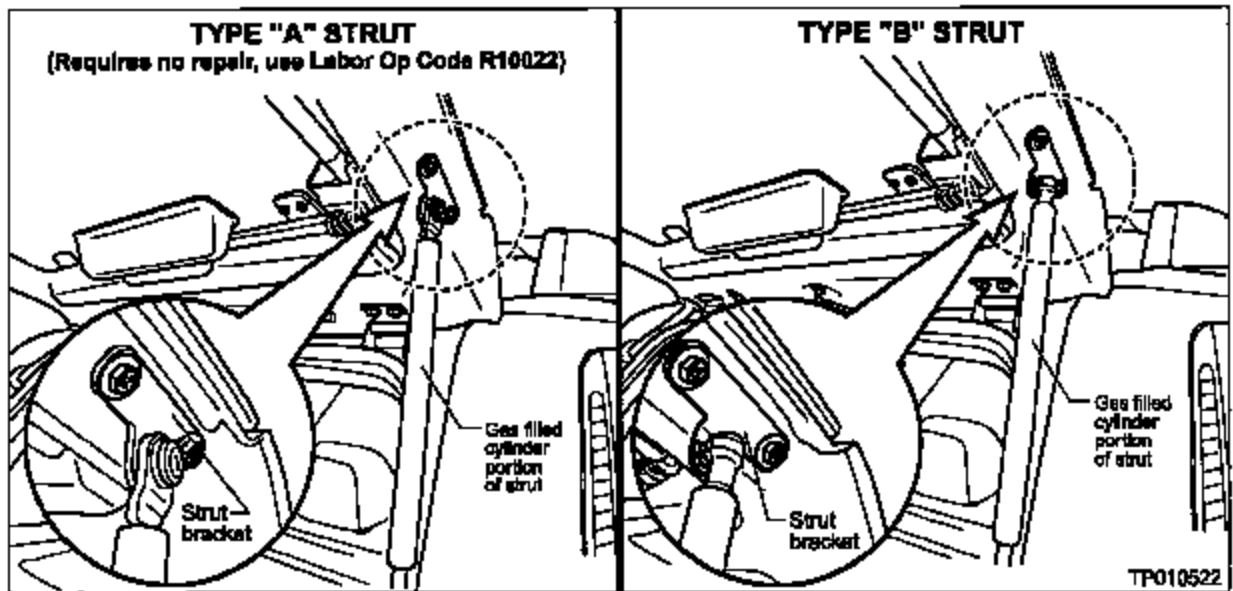

Figure 1
* See additional VINs on page 7. These vehicles may have had the "Type B" struts (refer to Figure 1 and Parts Information) previously installed as service parts.